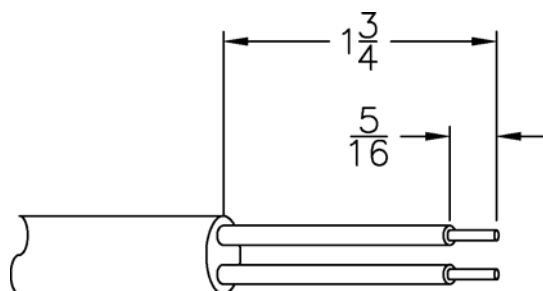

Figure 1: Recommended strip lengths
6. Strip the float switch and power leads as recommended in figure 1.